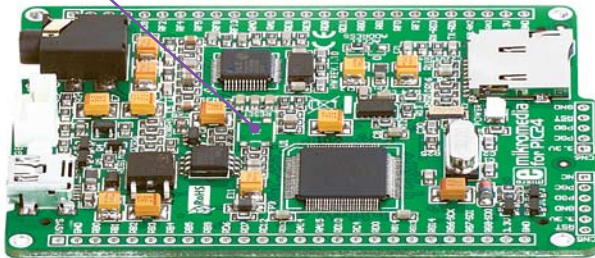

Figure 4-1: Location of additional reset button
*You can also solder additional reset button on the appropriate place at the back side of the board, **Figure 4-1**.*